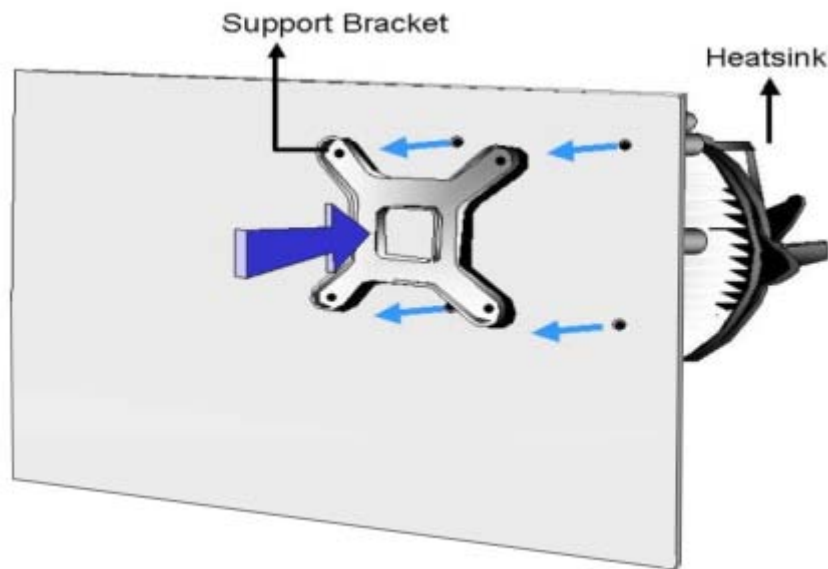

Figure 4-6: Securing the Heat sink to the IMBA-G412ISA
- Step 4: Secure the cooling kit.** From the solder side of the PCB, align the support bracket to the screw threads on heat sink that were inserted through the PCB holes. (See **Figure 4-6**)